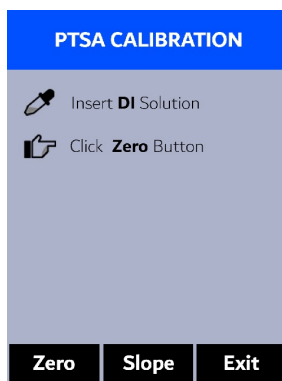

Figure 4.
2. Power on the SP-380 by pressing (OK). Allow 5–10 seconds for the SP-380 to stabilize.
4. Press **Calib** ( > ) to launch the **PTSA CALIBRATION** screen (Figure 4).